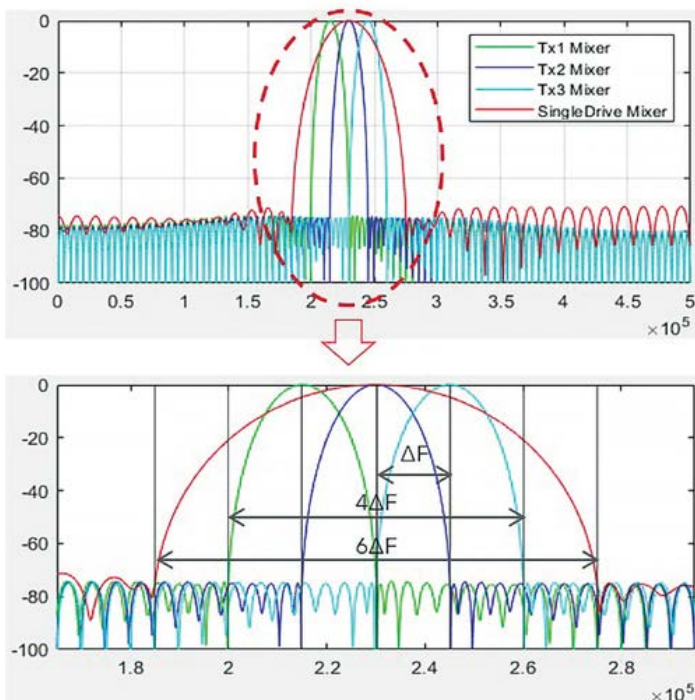

Figure 3. Sensing Bandwidth Comparison between MFRPS and Single Frequency Sensing System
- **Enhanced noise immunity:** Frequency diversity allows the system to isolate and mitigate interference more effectively (Fig. 3).